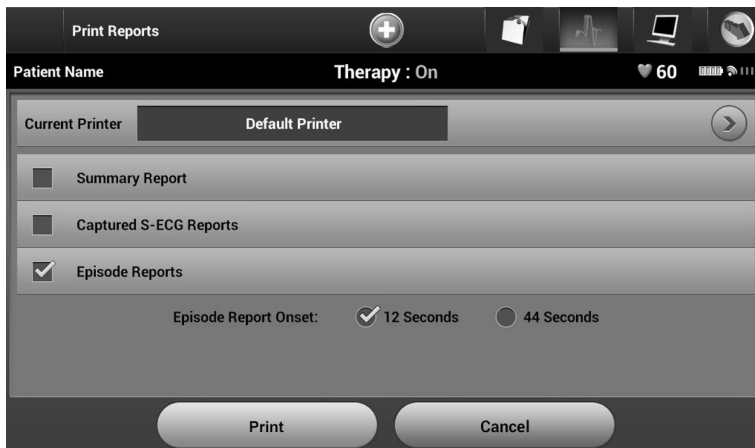

Figure 38: *Print Reports screen*
2. Select the Print Reports button to display the Print Reports screen (Figure 38).
1. Select the Captured S-ECG Reports option from the Print Reports screen (Figure 38).
1. Select the Episode Reports option on the Print Reports screen (Figure 38).